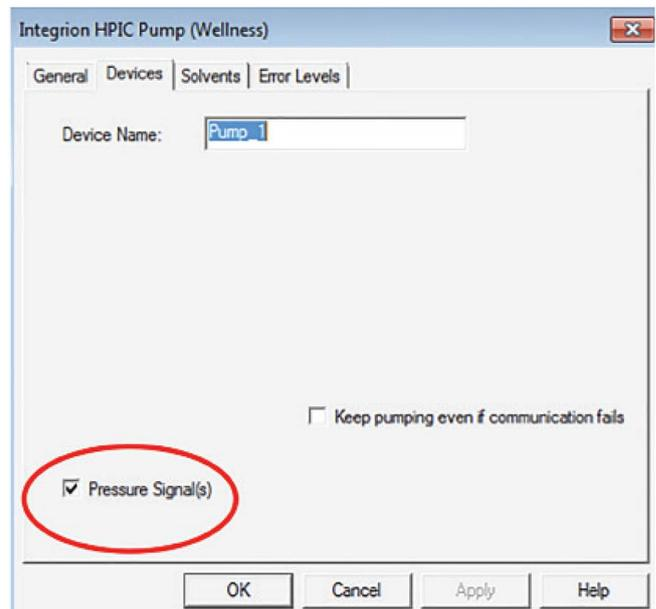

Figure 6. Adding the Dionex Integrion HPIC Pump Wellness Module to the instrument configuration.
3. Select the Devices tab and click on the Pressure Signal(s) box (Figure 6).